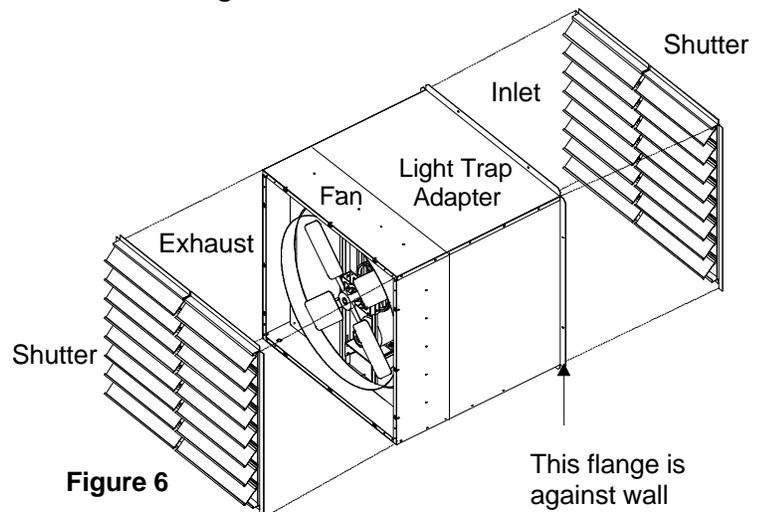

Figure 6
3. Slide fan through opening until the flange is against wall. (See **Figure 6**).